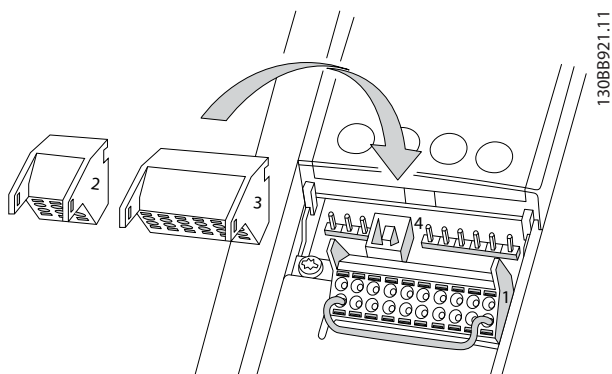
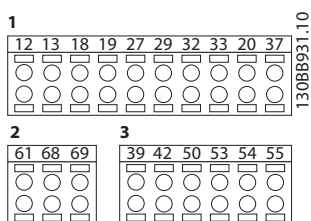

Figure 4.7 Control Terminal Locations
Figure 4.8 Terminal Numbers
- When the adjustable frequency drive is connected to a thermistor, ensure that the thermistor control wiring is shielded and reinforced/double insulated. A 24 V DC supply voltage is recommended. See *Figure 4.7*.
Figure 4.7 and Figure 4.8 show the removable adjustable frequency drive connectors. Terminal functions and default settings are summarized in *Table 4.2* and *Table 4.3*.